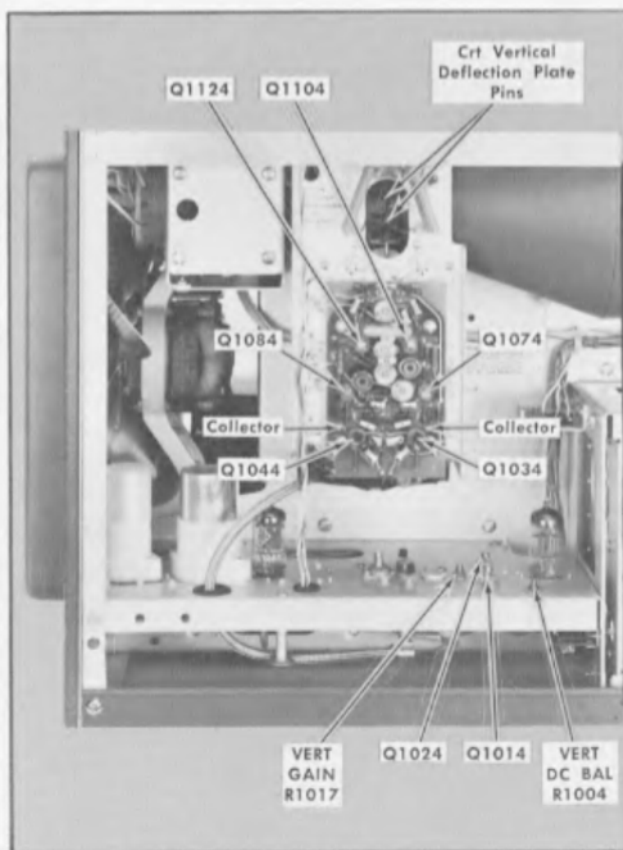

Fig. 5-4. Vertical Amplifier test points and adjustment locations for performing steps 9 and 10.
- a. Using a small screwdriver, short the crt vertical deflection-plate pins together (see Fig. 5-4).
- d. Short the cases of Q1074 and Q1084 (see Fig. 5-4) together (not to ground) and note the trace deviation from electrical center. Deviation should not be more than 0.5 cm maximum. Remove the short.
- e. Short the collector of Q1034 to the collector of Q1044 (see Fig. 5-4) and note the trace deviation from electrical center. Deviation should not be more than 0.5 cm maximum. Remove the short.
- f. Short the cases of Q1014 and Q1024 (see Fig. 5-4) together (not to ground) and note the trace deviation from electrical center. Deviation should not be more than 0.5 cm maximum. Remove the short.
- h. Adjust VERT DC BAL R1004 (see Fig. 5-4) to position the trace to the center of the graticule.
- e. Adjust VERT GAIN R1017 (see Fig. 5-4) so the display vertical deflection is exactly 4 cm in amplitude.